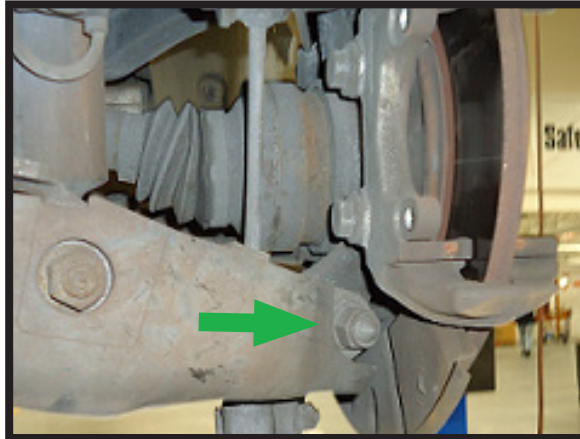

FIGURE 21
9. DISASSEMBLE THE OUTER SUSPENSION ARM. (FIGURE 21)